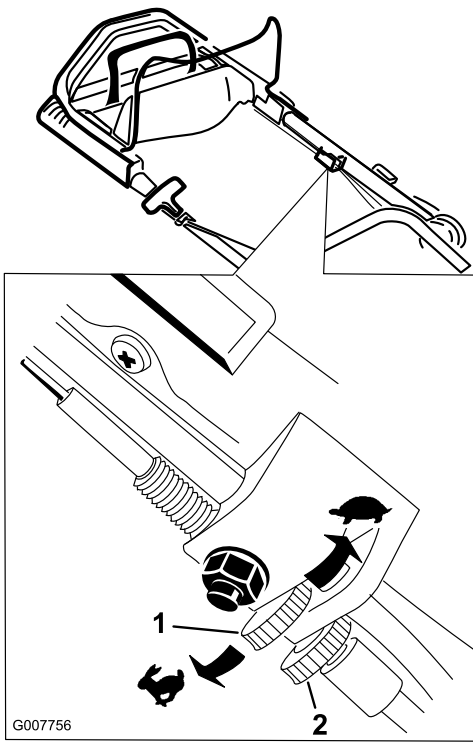

Figure 29
1. Loosen the locking nut by hand (Figure 29).